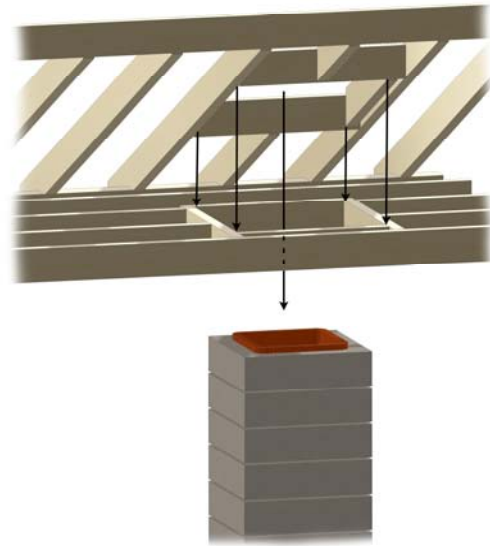

Figure 26. Roof Penetration
C. Measure to all sides of the nail and mark the required opening, and then cut a hole in the roof. Remember that the hole is measured on the horizontal, and then projected to the roof. The hole may then be larger, depending on the pitch of the roof. See Figure 26.